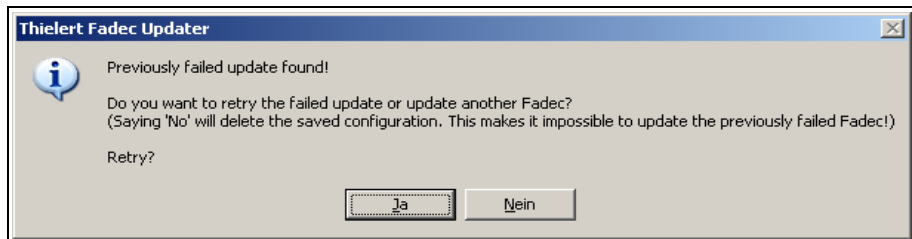

Fig. 6.62 Previously failed update
■ **Note:** In case the update fails please check your CAN connection and power supply for the FADEC. You can then restart the application and go back to step 5. The Updater will recognize the previously failed update and ask you what to do. As long as you are connected to the **same** FADEC as before you can retry the update by clicking on 'Yes' (see Fig. 6.62). If you are connected to another FADEC please select 'No'.